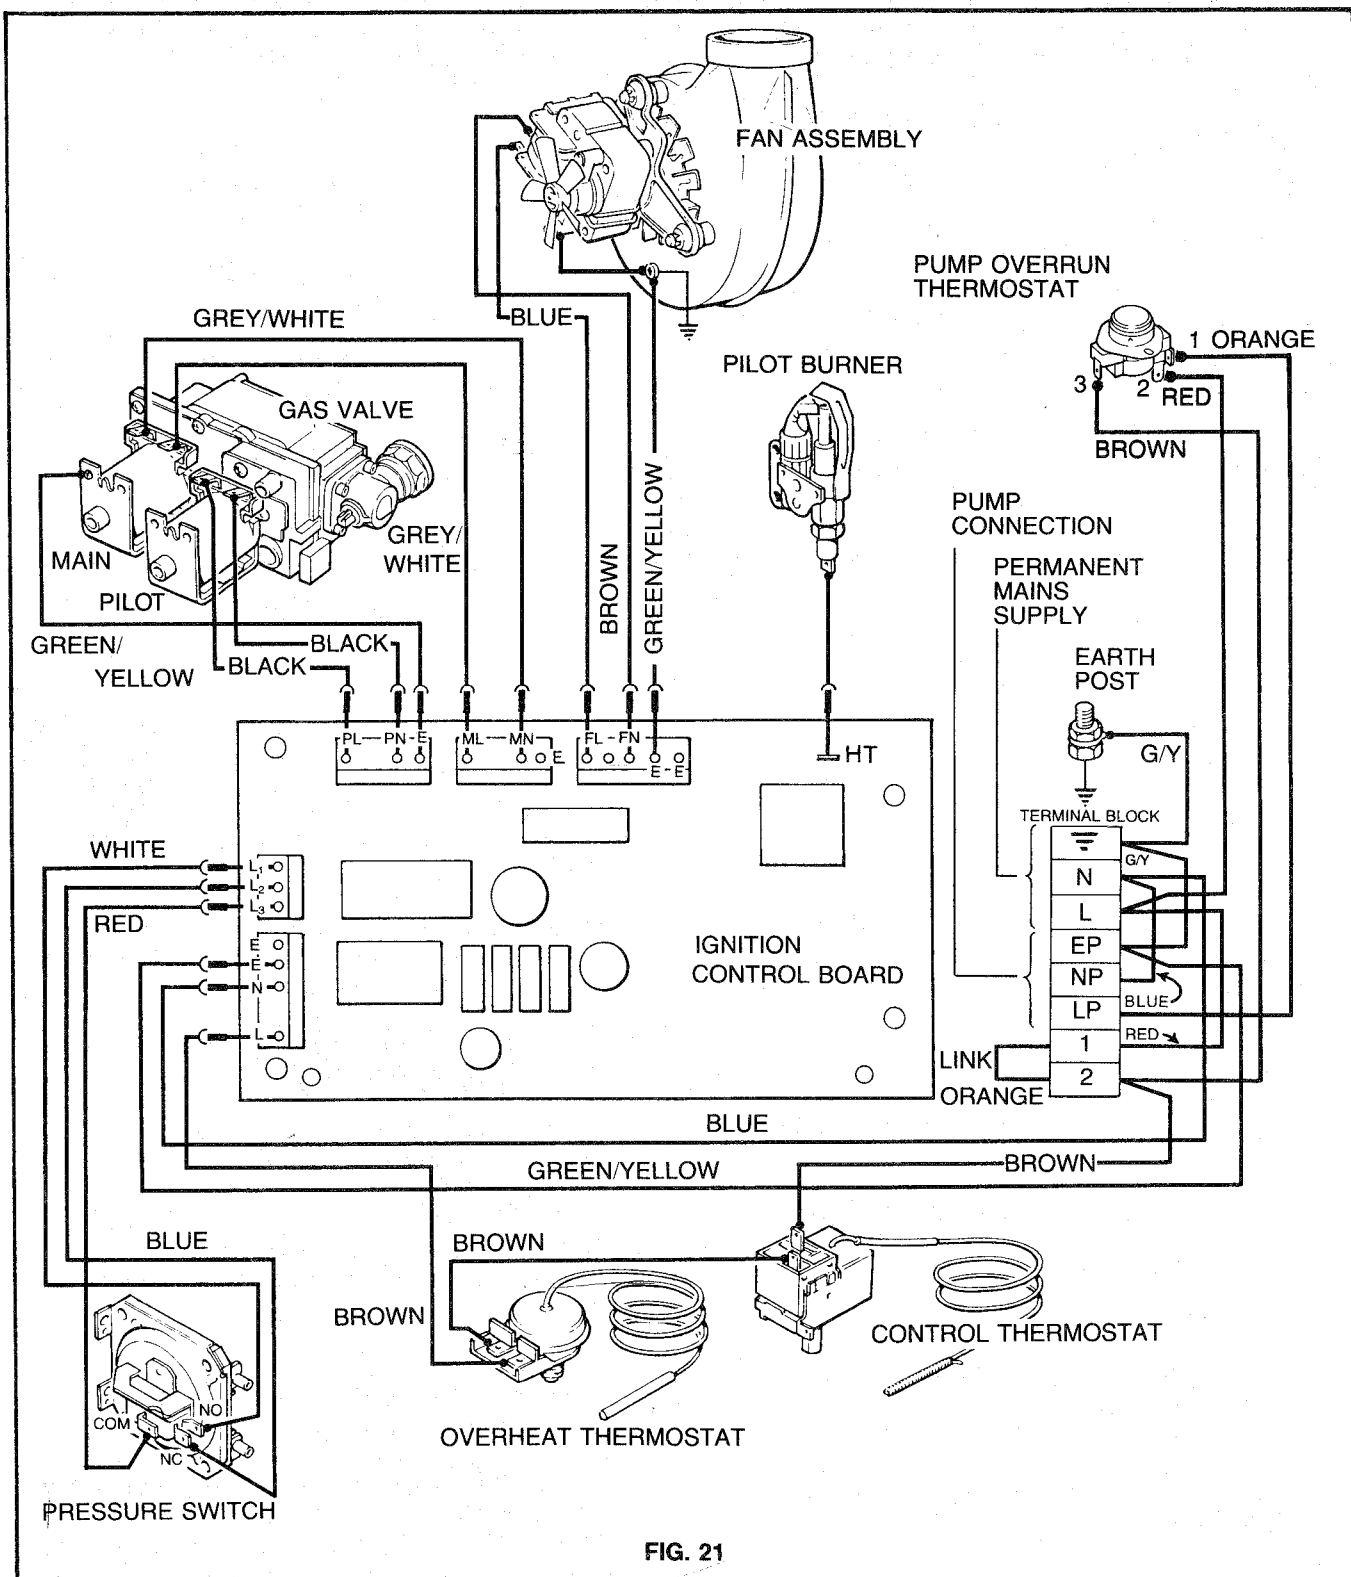

FIG. 21
- (f) Re-fit a new pressure switch to the appliance in the reverse order, taking care to connect the electrical wires in accordance with the wiring diagram (Fig. 21) and the white silicon tube to the correct point on the pressure switch.
- (e) Refit a new ignition control PCB to the appliance in the reverse order, taking care to connect the electrical connectors in accordance with the wiring diagram (Fig. 21).
- (j) Disconnect the four spade terminals and the screwed earth terminal from the gas valve, taking note of their positions (wiring diagram, Fig. 21).
- (b) Disconnect the three wires from the pump over-run thermostat which is located on the back panel base, taking note of their respective positions (wiring diagram, Fig. 21).